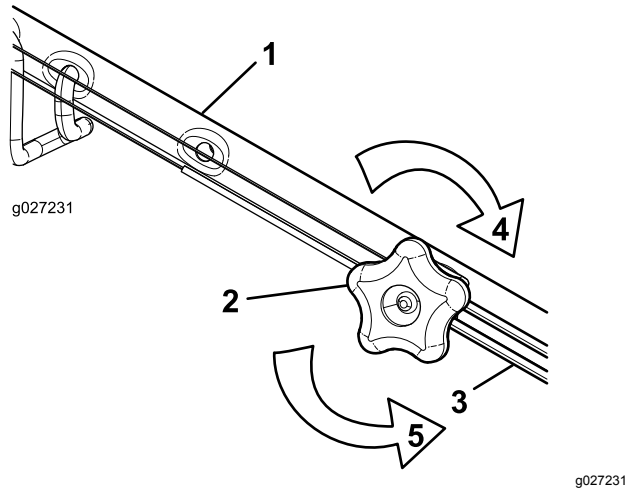

Figure 41
1. Turn the adjustment knob counterclockwise to loosen the cable adjustment (Figure 41).
2. Adjust the tension on the cable (Figure 41) by pulling it back or pushing it forward and holding that position.